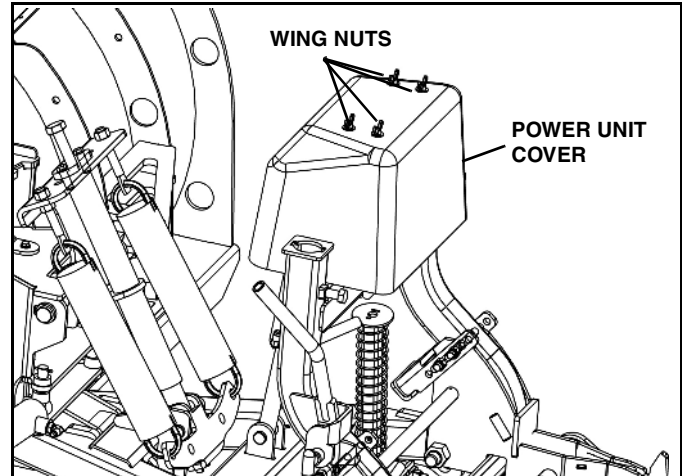

Figure 1-45
3. Remove four wing nuts and four flat washers from the cover. Remove the cover. (See Figure 1-45).